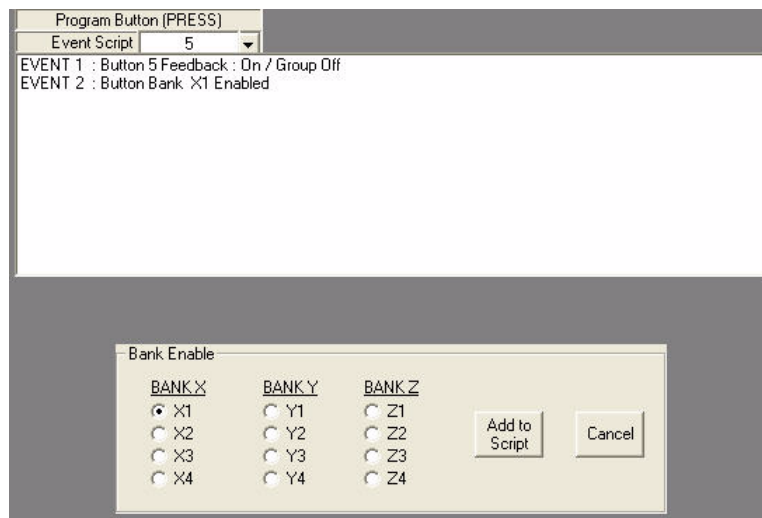

FIG. 95 Button 5 script, with Enable X1 Bank selected
3. Write a script for Button 5 and include Bank Enable X1 (FIG. 95).